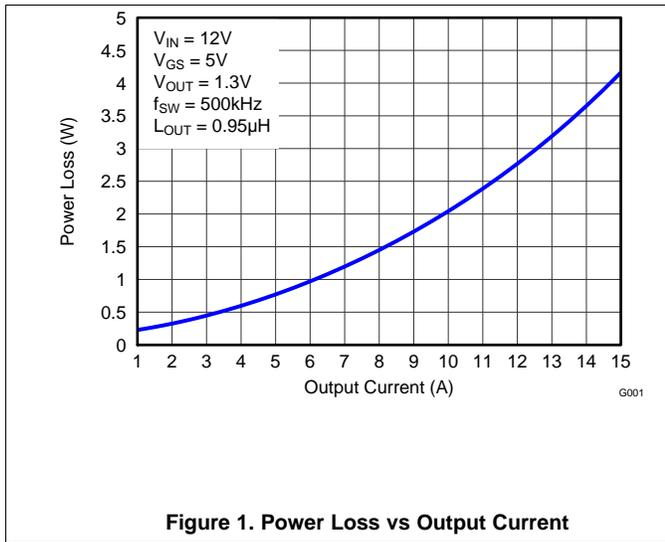
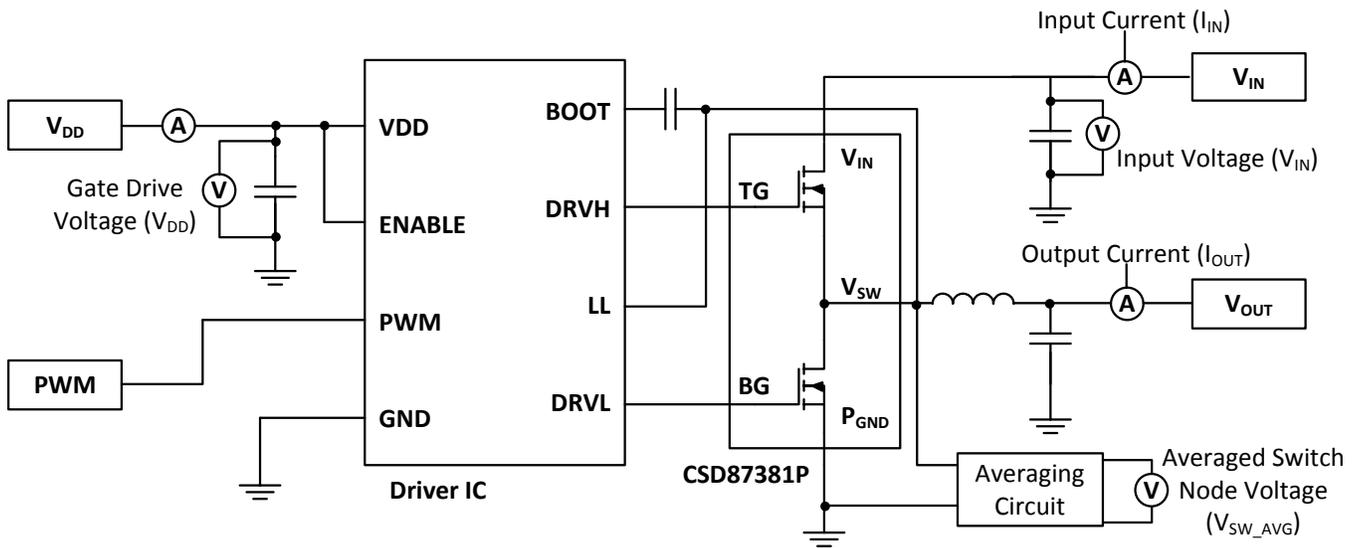

Figure 1. Power Loss vs Output Current
Figure 27. Typical Application
MOSFET-centric parameters such as  $R_{DS(ON)}$  and  $Q_{gd}$  are needed to estimate the loss generated by the devices. In an effort to simplify the design process for engineers, TI has provided measured power loss performance curves. Figure 1 plots the power loss of the CSD87381P as a function of load current. This curve is measured by configuring and running the CSD87381P as it would be in the final application (see Figure 27). The measured power loss is the CSD87381P loss and consists of both input conversion loss and gate drive loss. Equation 1 is used to generate the power loss curve.
The power loss curve in Figure 1 is measured at the maximum recommended junction temperatures of 125°C under isothermal test conditions.
- Power Loss at 8 A = 1.44 W (Figure 1)